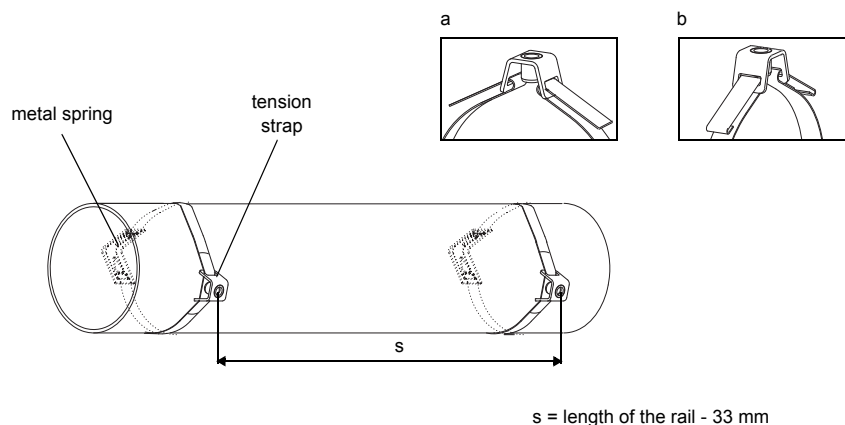

Fig. 7.9: Tension strap with the metal spring and the tension strap clamp on the pipe
- Place the tension strap around the pipe (see Fig. 7.9).
- Position the metal spring (if mounted) and the tension strap clamp (see Fig. 7.9):
- Insert the long end of the tension strap into the second slot of the tension strap clamp (see Fig. 7.9 a).
- Bend both ends of the tension strap (see Fig. 7.9 b).
- Repeat the steps for the second tension strap. Position the tension strap at the distance s (see Fig. 7.9).